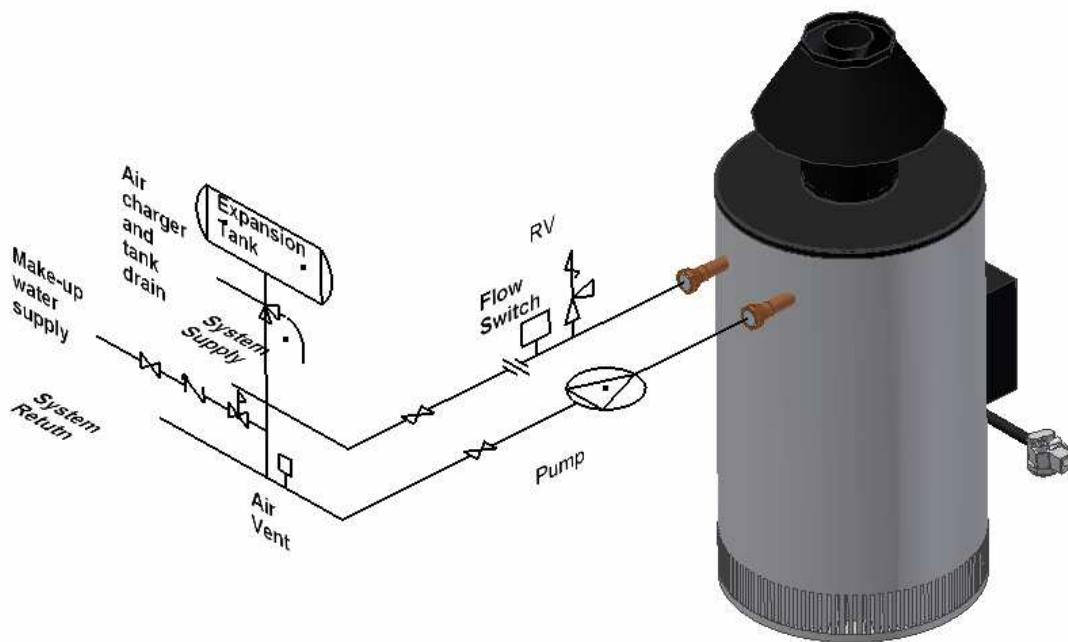

Figure 3
10. PIPING OF BOILER TO SYSTEM (FIG.3)